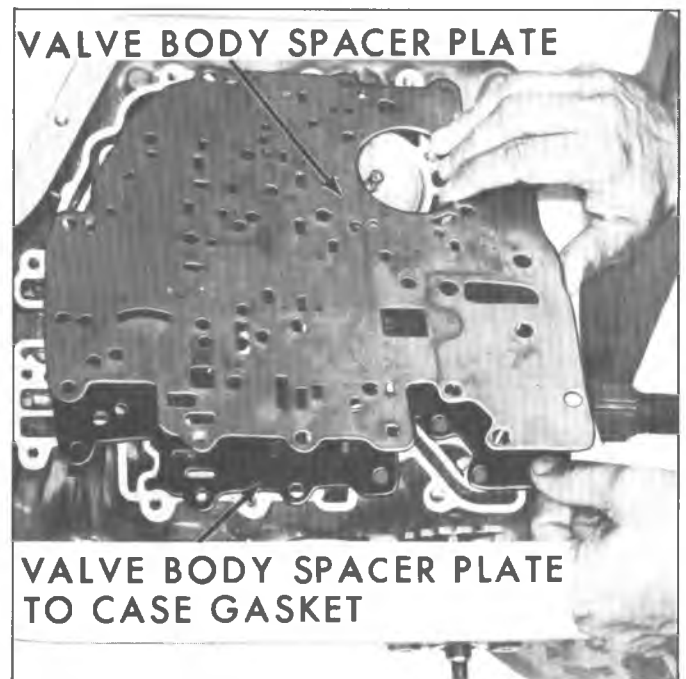

Fig. 14M--Removing Valve Body Transfer (Spacer) Plate and Gasket
4. Remove upper gasket, valve body transfer (spacer) plate and valve body transfer (spacer) plate to case gasket (fig. 14M).